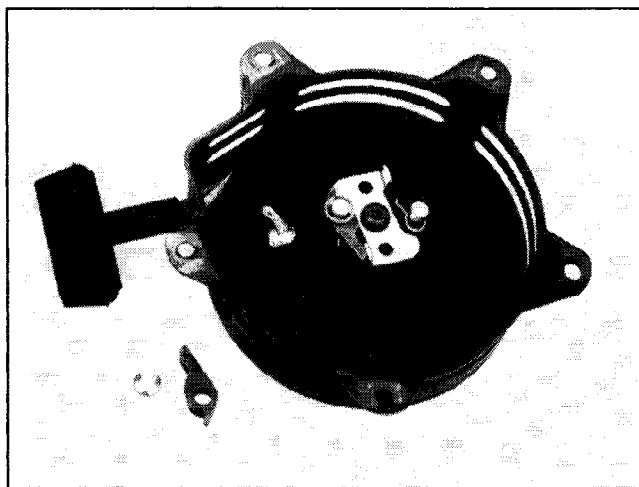

Figure 7-4. Starter Pawls.
2. Carefully note position of the pawls, pawl springs, and retaining rings before disassembly. (Components must be assembled correctly for proper operation.) Refer to Figure 7-4.